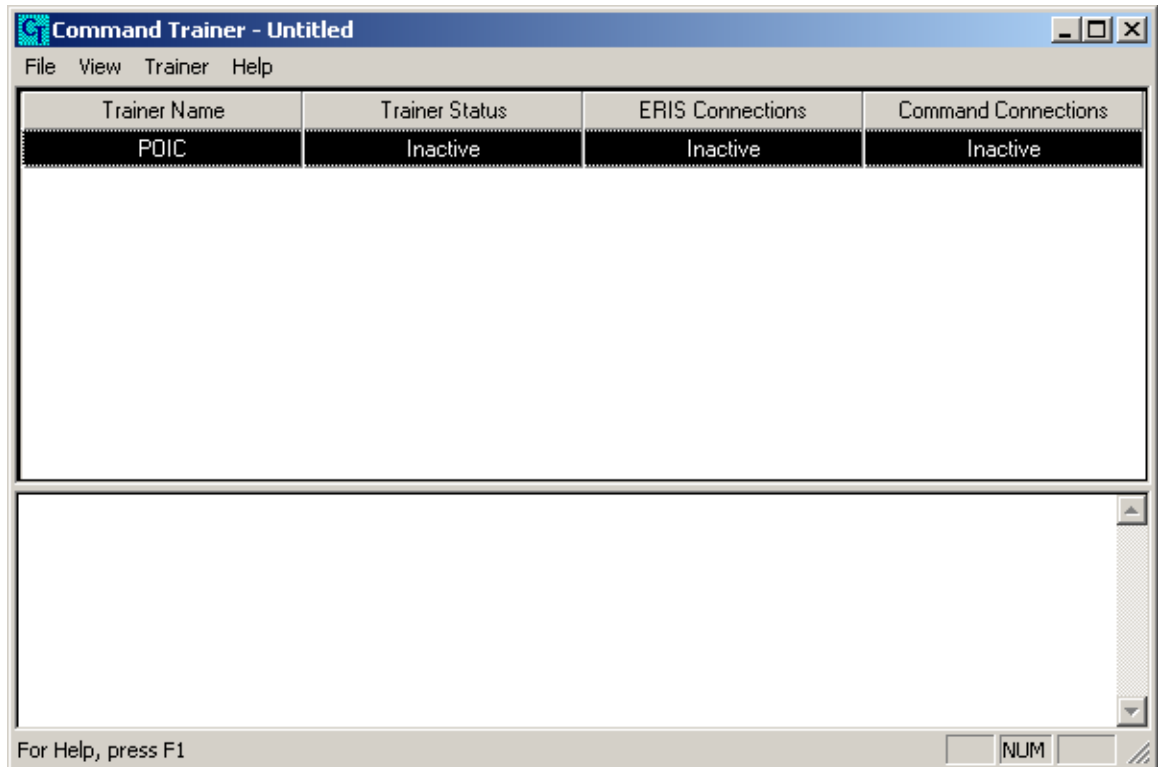

Figure 19 Command Trainer with POIC Trainer in Trainer List
When you are done checking (and possibly updating) this information push the **OK** button. You should now see the trainer listed in the Command Trainer main window trainer list as shown in Figure 19.
8. Select the POIC trainer in the Command Trainer application's main window trainer list. The row should be highlighted (as shown in Figure 19). Now go to the **Trainer** menu and select **Activate Trainer**. You will see the color of the trainer change to green and a message in the message area of the main window indicating that the trainer has been activated. Notice that the ERIS Connections and Command Connections columns show 0. This is because at this point no connections have been established.